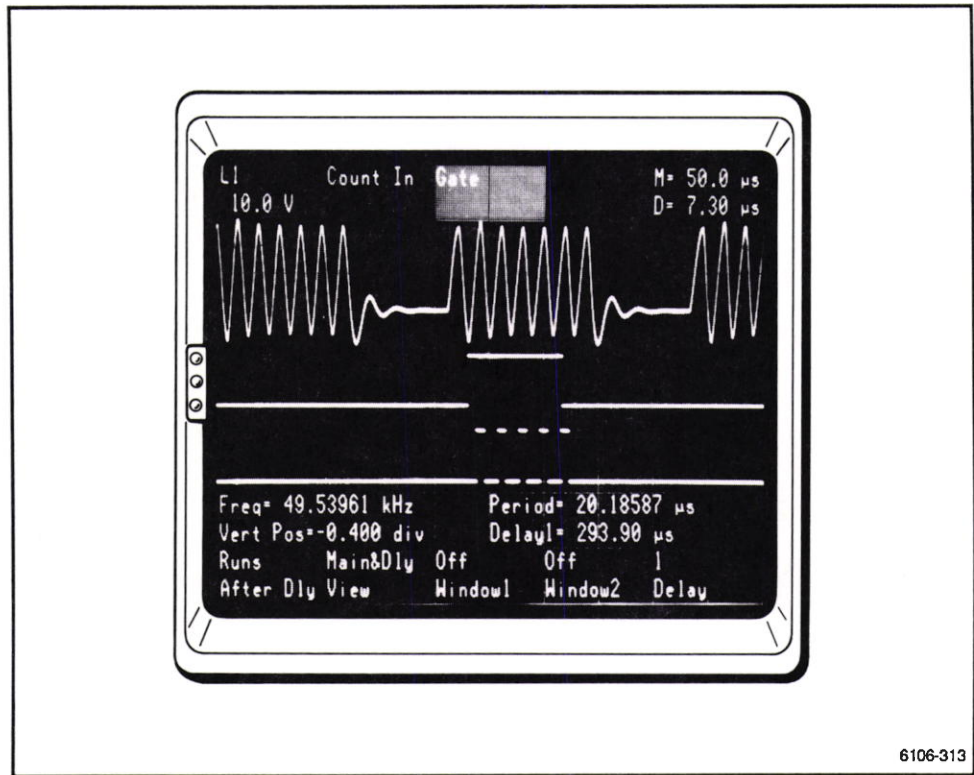

Figure 2-114. Gated frequency display.
- 6. The gated frequency measurement will appear toward the lower left in the display. (See Fig. 2-114.)